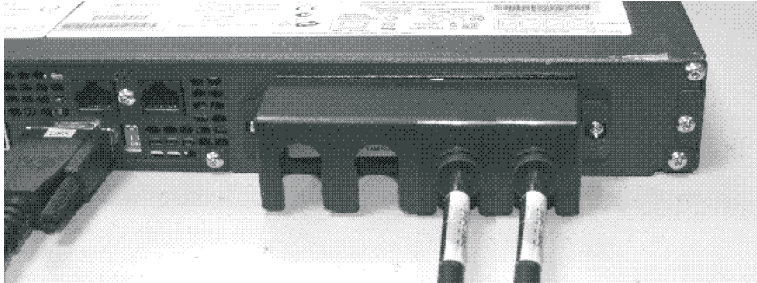

Figure 19. 2145 UPS-1U power cable-retention bracket
5. Secure the bracket in place with one screw on each side, as shown in Figure 19.